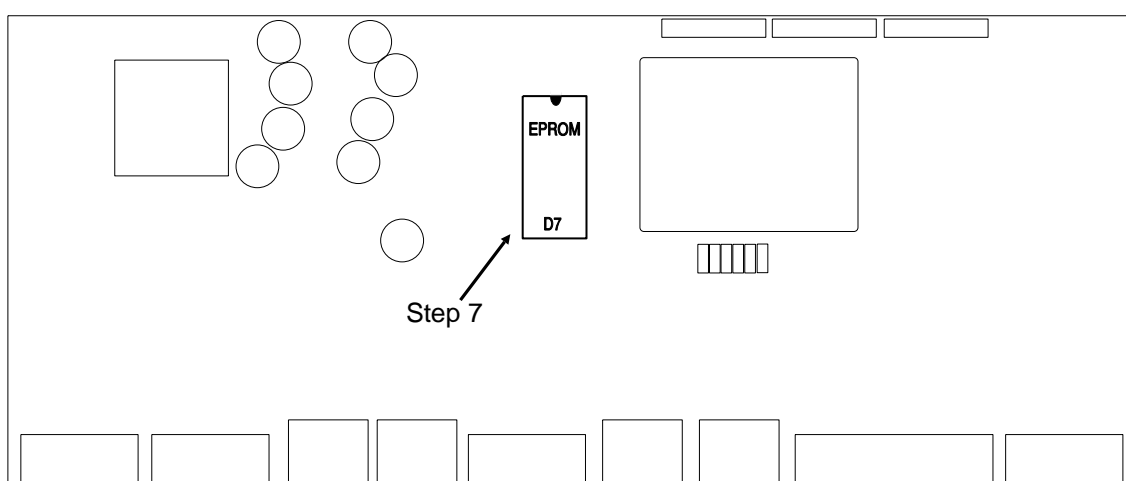

Fig.3
7. **If the PROM on PCB 570 also must be exchanged** - turn around the board assembly and locate the PROM on PCB 570 (fig.3) - repeat steps 3 and 4 with this PROM.